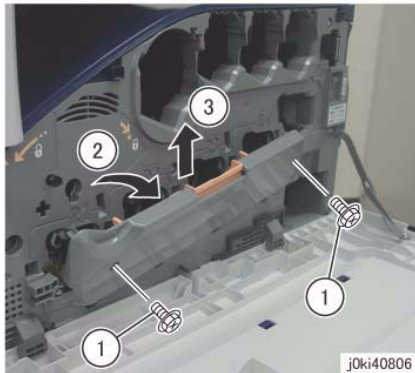

Figure 1 Remove the Drum Cover
- Remove the Drum Cover. (Figure 1)